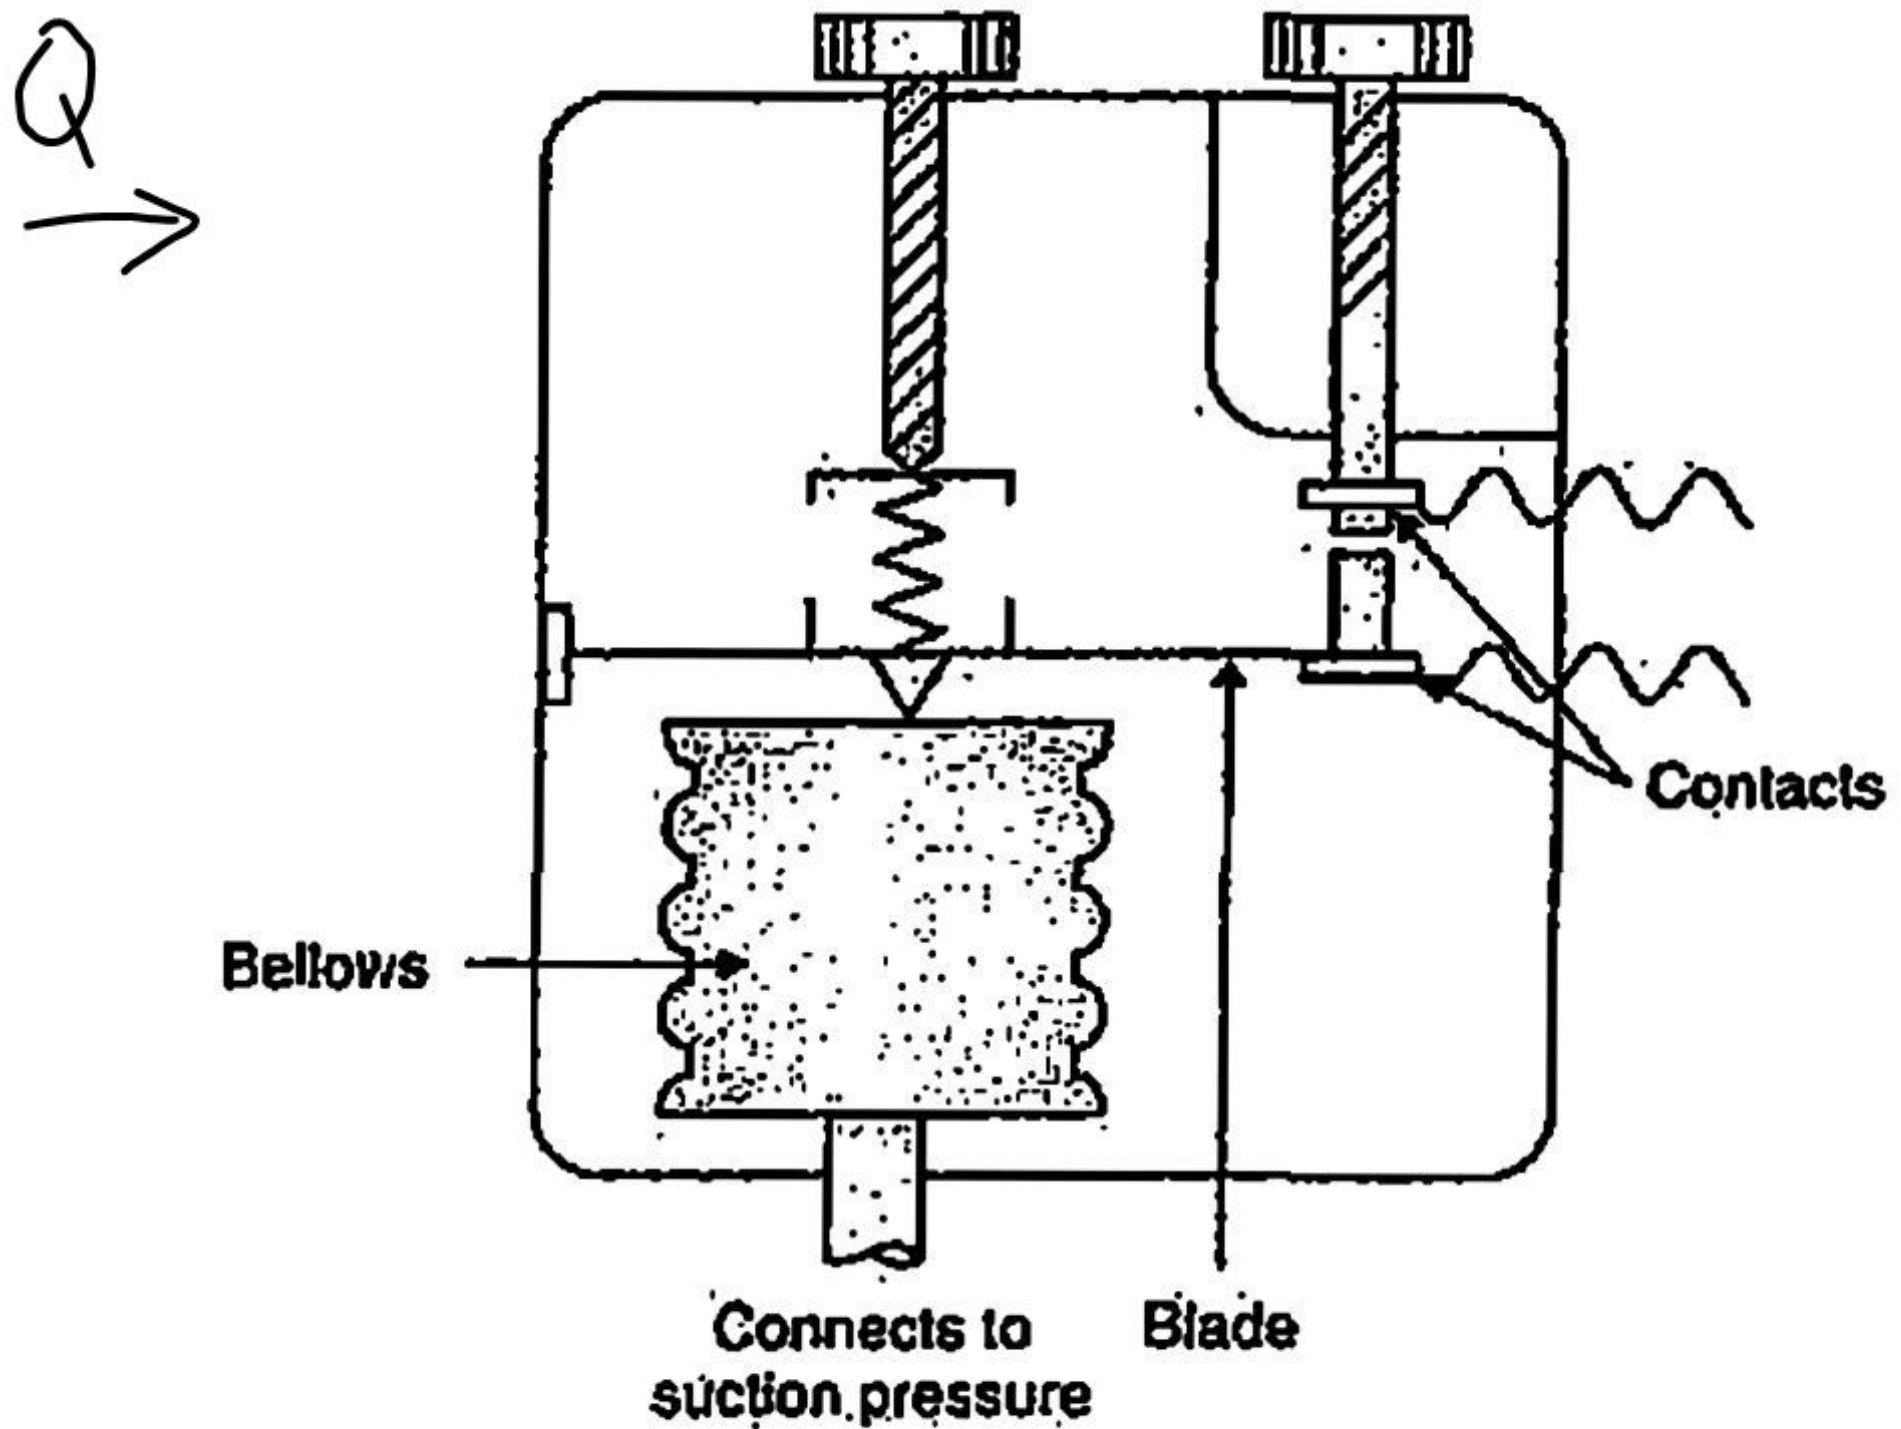

Fig. 3.19.1 : Low pressure control
- Fig. 3.19.1 represents a mechanism for low pressure control.